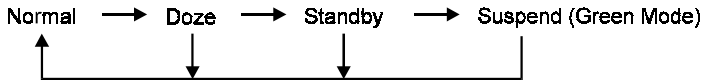

Figure 3-6 Power Saving Mode Flow Chart
-  Note that enabling the Power Management function will result in enabling the HDD Power Down function (Max Saving = 15 min, Min Saving = 1 min). The HDD Power Down function is not part of the Power Management scheme as indicated in Figure 3-6. Refer to the Standby Mode, Suspend Mode, and HDD Power Down descriptions below for more information on hard drive power management.